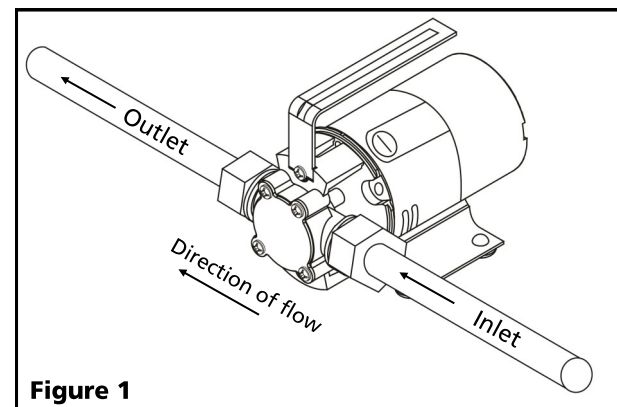

Figure 1
1. The inlet and discharge ports are 3/4" garden hose thread. This pump includes a 6 foot suction hose and suction attachment. Standard garden hose can be threaded onto the pump discharge. See Figure 1. Use 1/2" or larger garden hose.